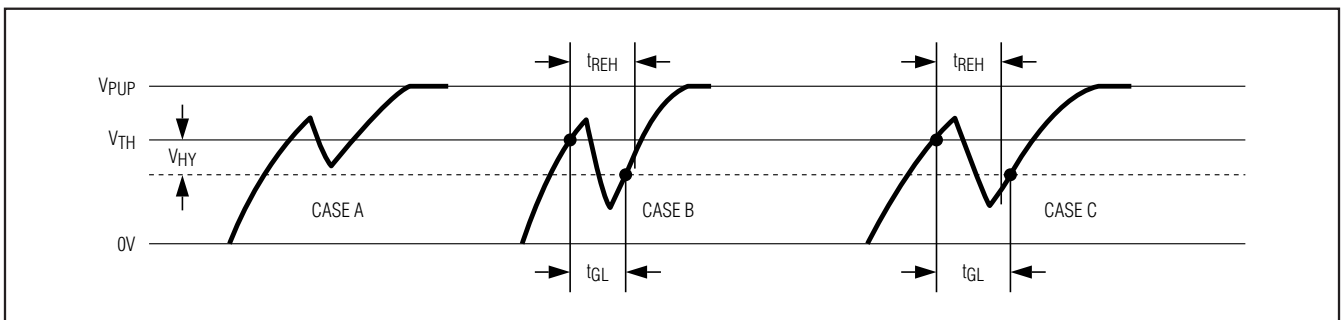

Figure 12. Noise Suppression Scheme
- 2) There is a hysteresis at the low-to-high switching threshold  $V_{TH}$ . If a negative glitch crosses  $V_{TH}$  but does not go below  $V_{TH} - V_{HY}$ , it will not be recognized (Figure 12, Case A). The hysteresis is effective at any 1-Wire speed.
- 3) There is a time window specified by the rising edge hold-off time  $t_{REH}$  during which glitches are ignored, even if they extend below the  $V_{TH} - V_{HY}$  threshold (Figure 12, Case B,  $t_{GL} < t_{REH}$ ). Deep voltage drops (Figure 12, Case C,  $t_{GL} > t_{REH}$ ).
or glitches that appear late after crossing the  $V_{TH}$  threshold and extend beyond the  $t_{REH}$  window cannot be filtered out and are taken as the beginning of a new time slot (Figure 12, Case C,  $t_{GL} \geq t_{REH}$ ).